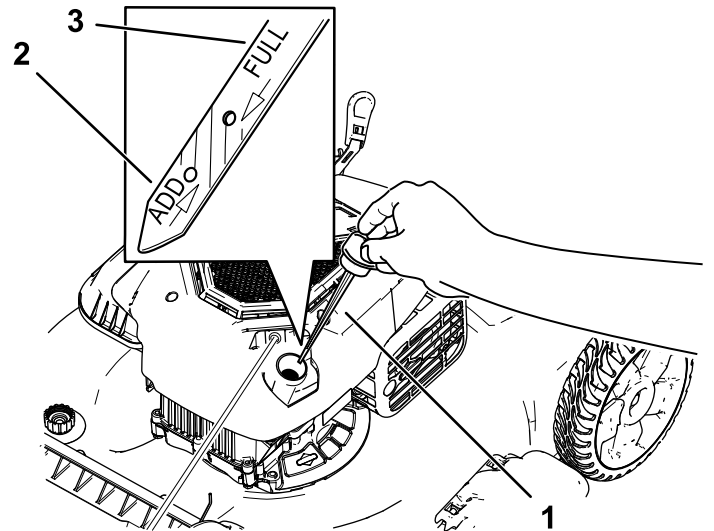

Figure 19
3. Remove the dipstick by rotating the cap counterclockwise and pulling it out (Figure 19).
10. Read the oil level on the dipstick (Figure 19).